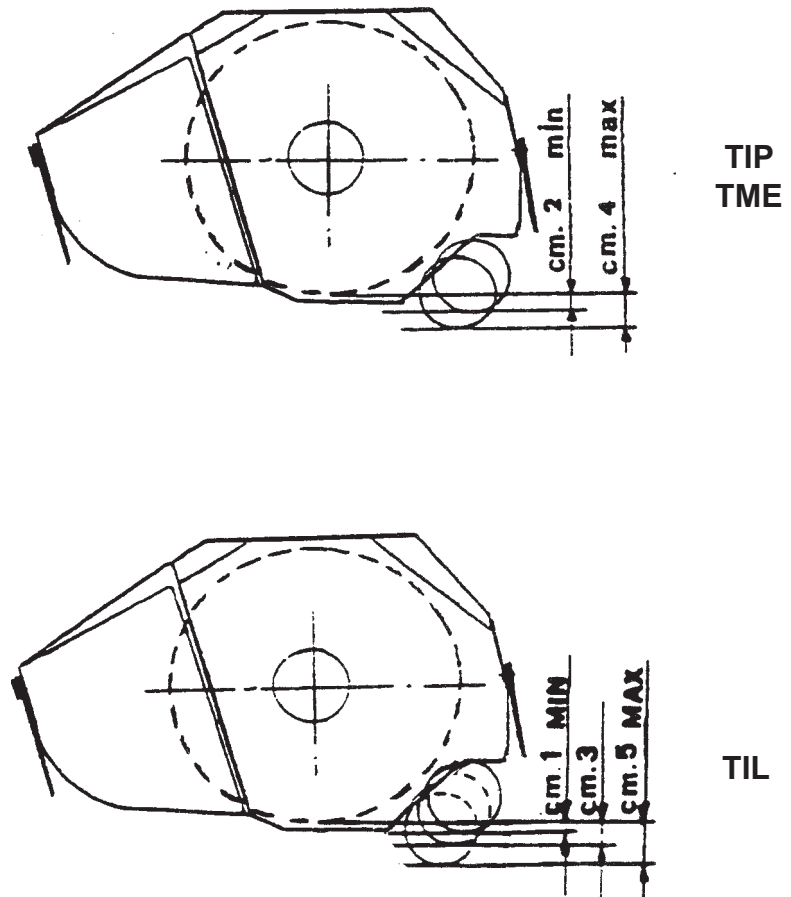

Fig. 25
Adjustment of the height of cut is obtained by shifting the flail head roller in order to suit the material to be cut and the required degree of chopping (FIG. 25).
- Adjust the height of cut, as shown in FIG. 25